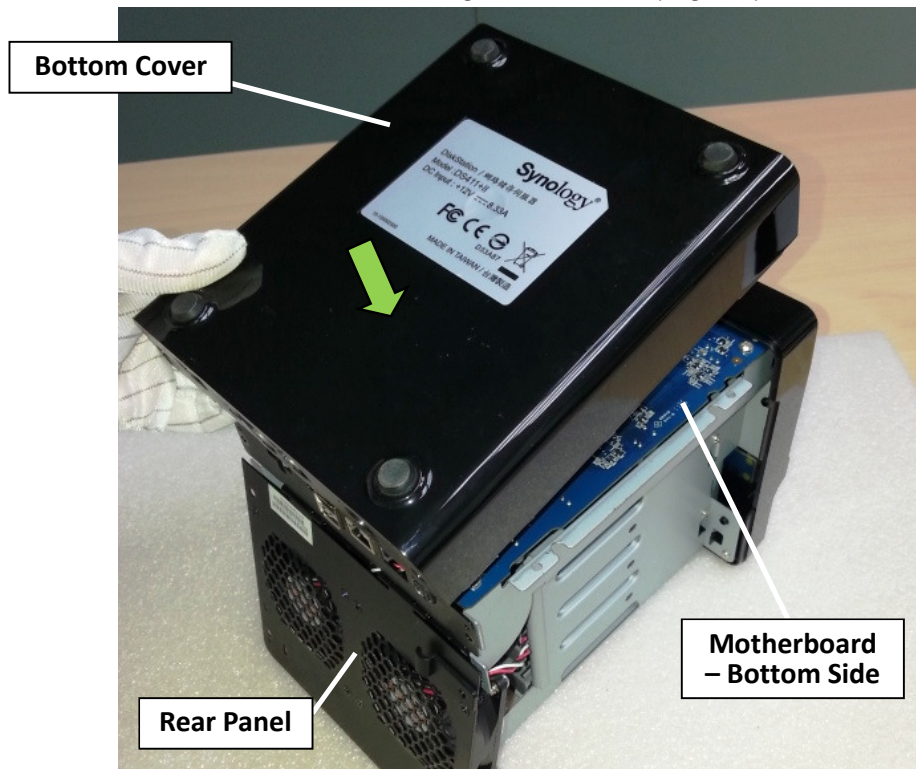

Fig. 78
3.2.7 Restore the bottom cover to its original location. (Fig. 78)